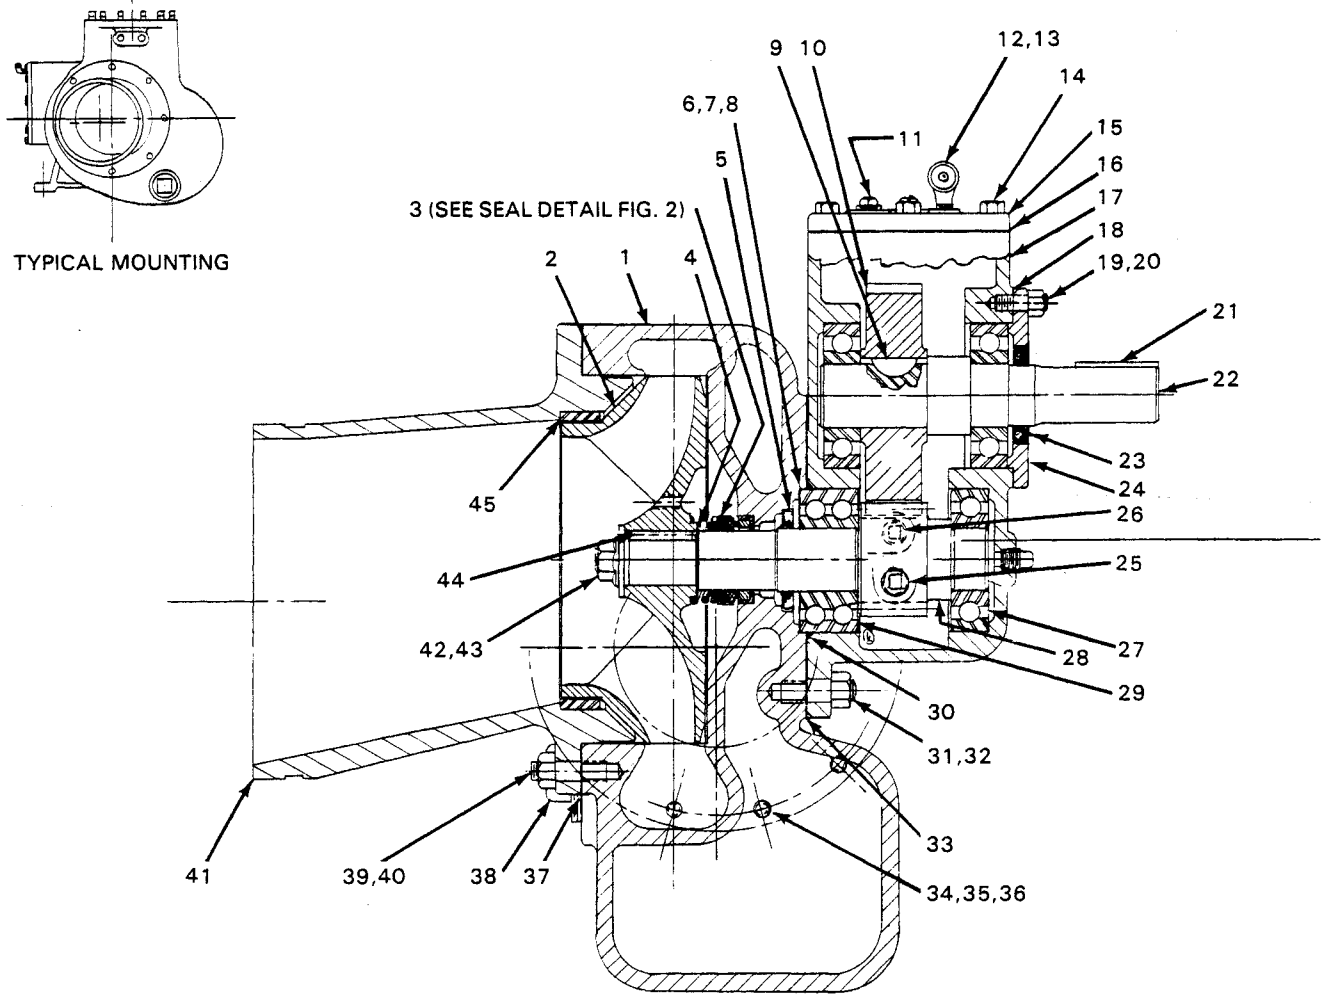

Figure 1. Pump Model 08C1-GA
This pump requires little service due to its rugged, minimum-maintenance design. If it becomes necessary to inspect or replace components, however, follow these instructions, which are keyed to the sectional view (see figure 1) and the accompanying parts list.
Reinstall the drive shaft bearing in the gearbox housing. Reinstall the drive gear key, and position the drive gear so that it engages the pinion shaft gear. Install the drive shaft and bearing. Inspect the oil seal (23) and replace as necessary. Reinstall the oil seal in the bearing cap, positioning the lip as shown in figure 1, replace the bearing cap gasket (18), and secure the bearing cap to the gearbox housing.
Replace the bearing shims. After final reassembly, shaft end play should fall between .005 and .012 inches; add or remove bearing shims to reach this recommended tolerance. Inspect the oil seal, and replace as necessary. Reinstall the oil seal in the volute housing, positioning the lip as shown in figure 1.